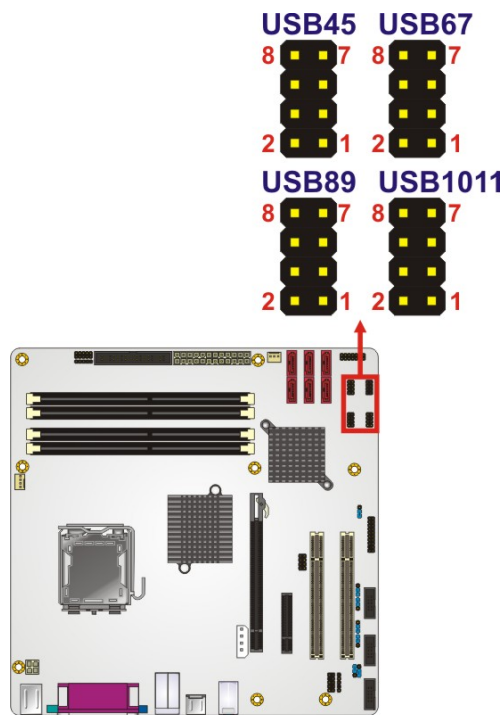

Figure 3-17: USB Connector Locations
- CN Location:** See **Figure 3-17**
CN Location: See Figure 3-17